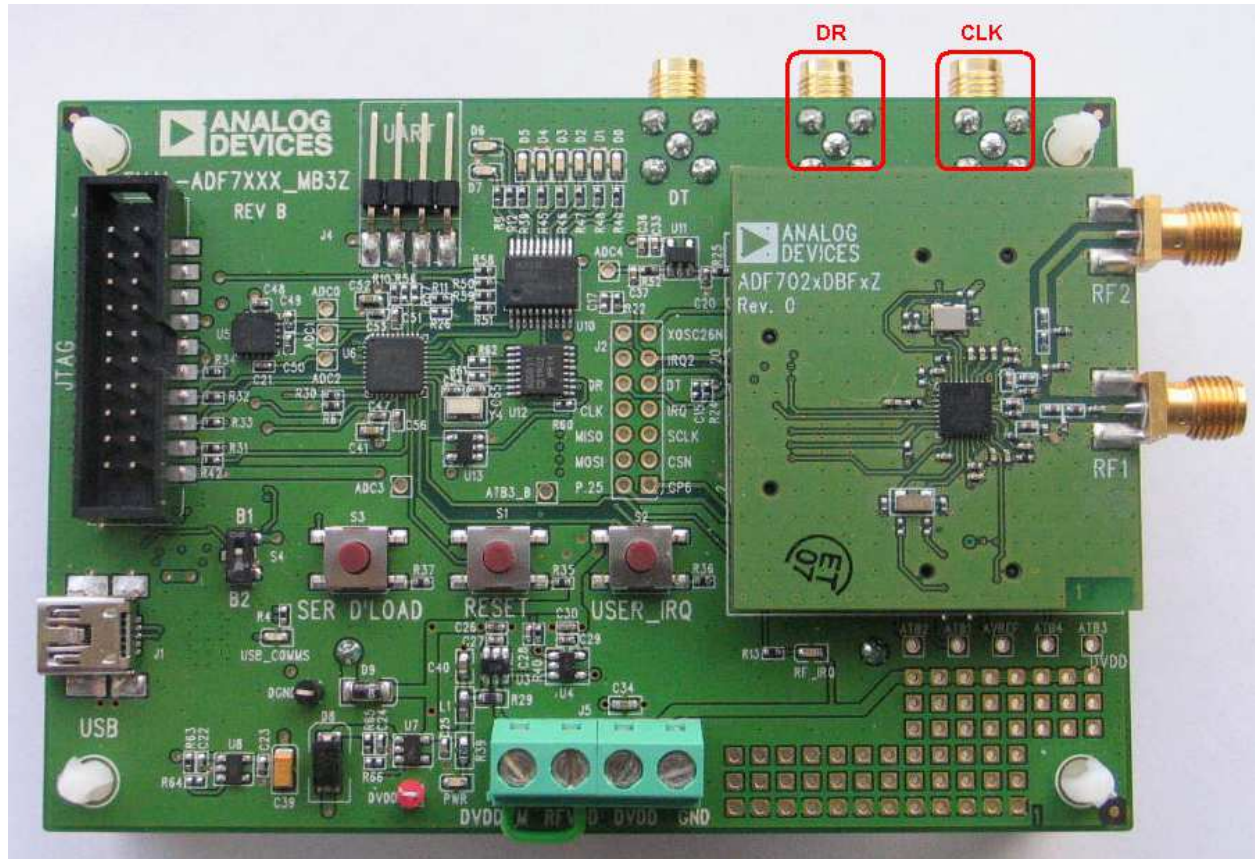

Figure 27
- While in ***PHY_RX*** with SPORT mode enabled, the received data demodulated by the ADF7023 will appear at the **DR** SMA connector on the mother board as shown in *Figure 27*
- A clock synchronized with the demodulated data will appear at the **CLK** SMA connector as shown in *Figure 27*.